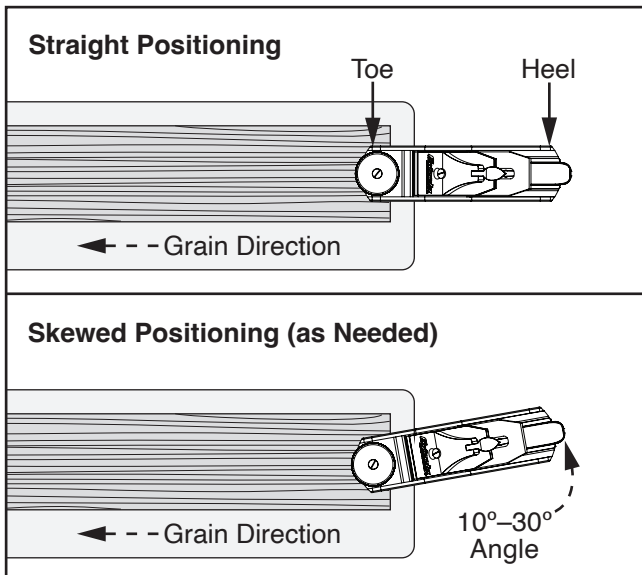

Figure 11. Smoothing plane positioned on workpiece.
3. Place toe end of smoothing plane on starting edge of workpiece, following same direction as wood grain (see **Figure 11**).
Note: Difficult wood grains may require skewing heel end of plane approximately 10° – 30° to reduce tear-out (see **Figure 11**).